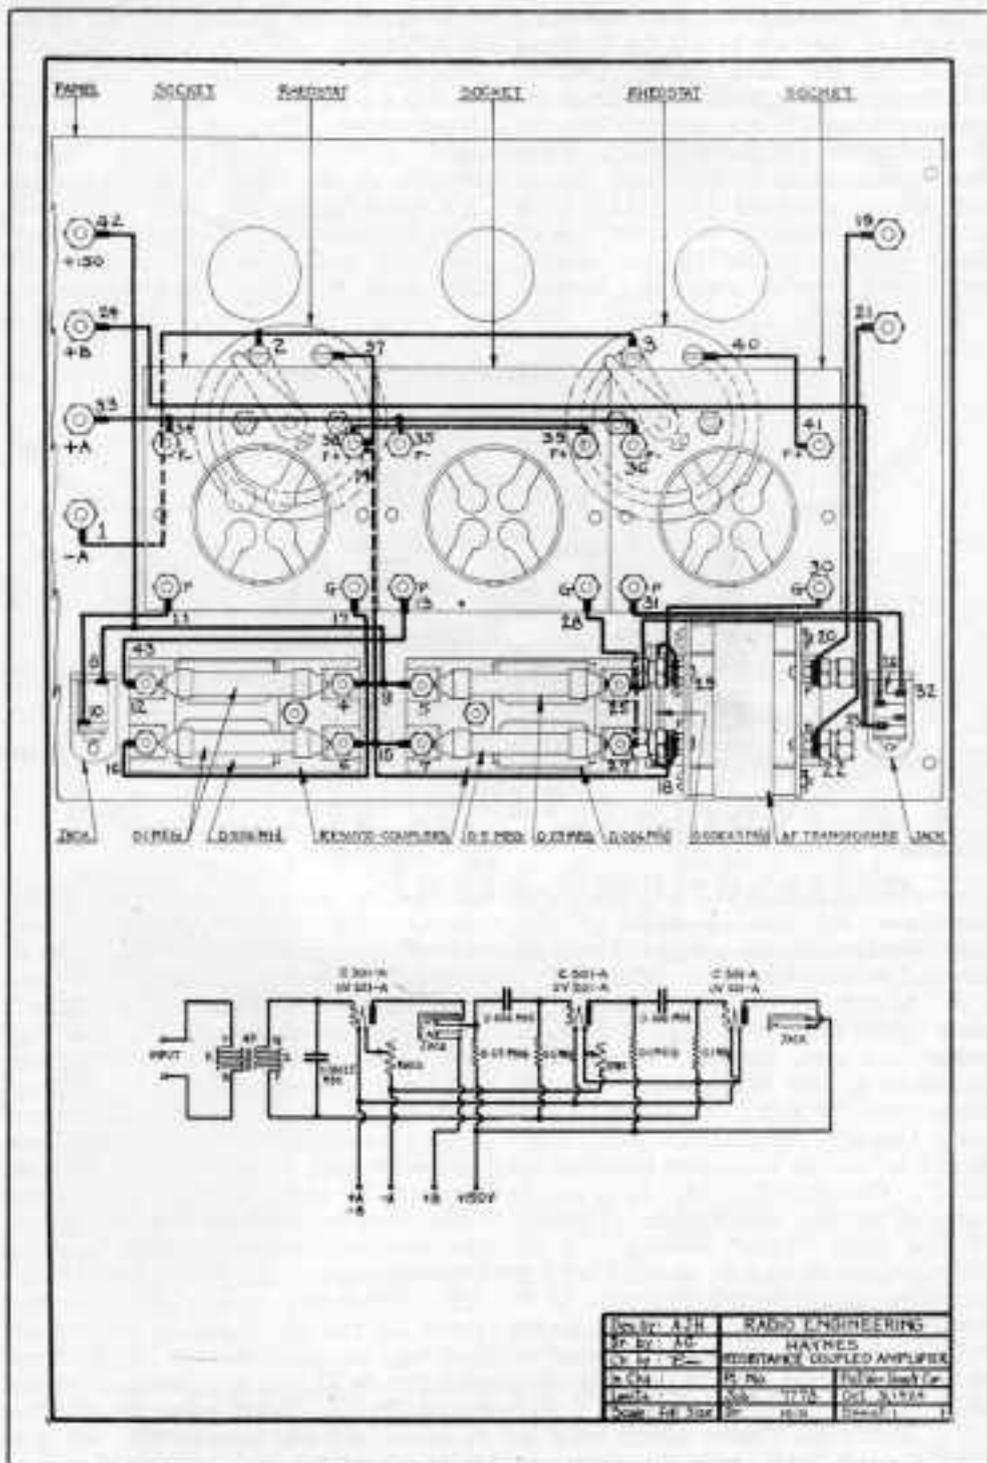

Fig. 1. In the picture wiring diagram the sockets are shown turned upward. Below is the schematic hook-up.
**Assembly And Wiring** The picture wiring diagram in Fig. 1 shows the exact wiring and connections. These are numbered to correspond with the following step-by-step assembly instructions. These instructions have been prepared to aid you in this work. You will save time by going thru the work in the order indicated.
If you have a set already constructed with a one step transformer coupled amplifier already built into it, you can add the two stage resistance coupled amplifier by connecting it on where the first jack is shown in the schematic wiring diagram, Fig. 1. The two stage resistance unit can be added to a two step transformer coupled unit if you want still greater power. The amplification is approximately the same as with a two tube push-pull amplifier for, contrary to the ideas of some experimenters, the push-pull amplifier does not give very much more amplification than a single tube, but is simply arranged to handle a large amount of current without distortion. As a matter of fact, there is liable to be less distortion through the use of a two stage resistance unit added to a two-step transformer coupled amplifier than with the push-pull circuit.